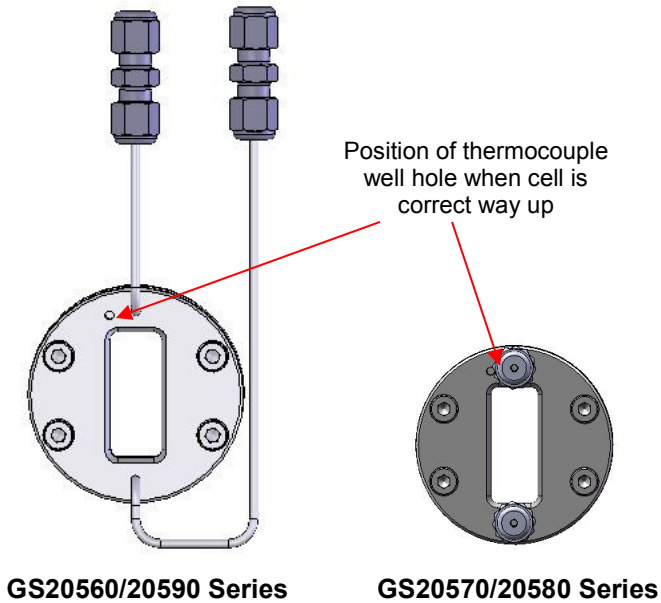

Fig 4. Front view of Flow Liquid Cells when oriented correctly from installation into the Electrical Heating Jacket
3. Slide the Flow Liquid Cell into the Electrical Heating Jacket, making sure that the rectangular aperture (long dimension) of the Flow Liquid Cell is vertical. (See the orientation of both types of Flow Liquid Cell holders from Fig. 4).
A small hole is drilled into each of the Flow Liquid Cell bodies to form a thermocouple well. (See Fig. 4 and also please refer to the Flow Liquid Cell's instruction manual to identify the position of the thermocouple well hole). This accommodates the junction end of the stainless steel sheathed Cr/Al (k-type) thermocouple for temperature monitoring using the 4000 Series™ Temperature Controller. The thermocouple is part of the Electrical Heating Jacket's power cable assembly.